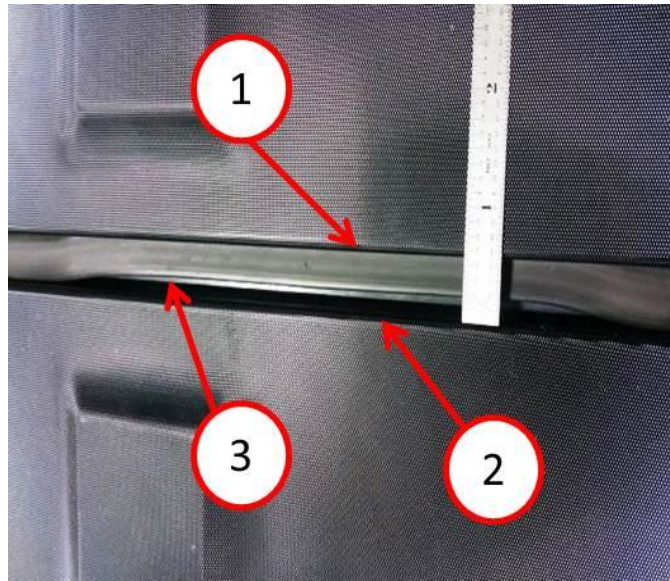

Fig. 15 Gap In Seal
62. Check for gaps. With roof panels in closed position, inspect seal between front and rear roof panels for gaps (Fig. 15).